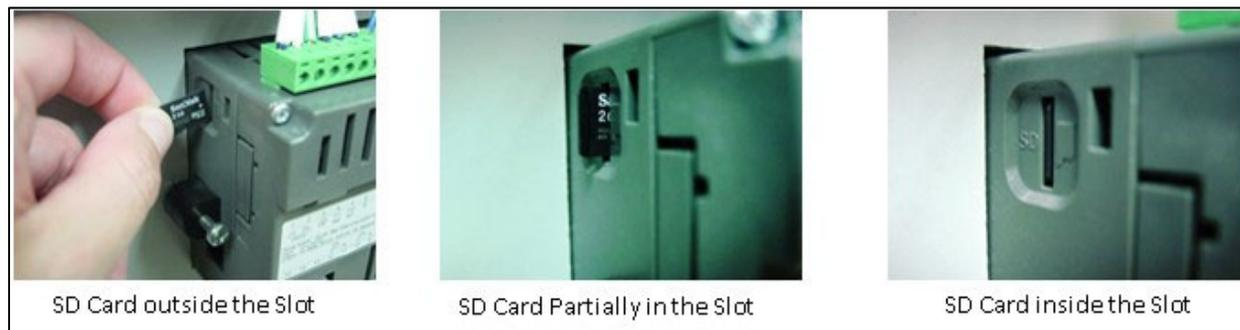

Figure 11-6: Inserting and Removing the SD Card from the PLC
- **See Figure 11-6** shows how the SD Card is inserted into the PLC. Please note the orientation of the SD Card.